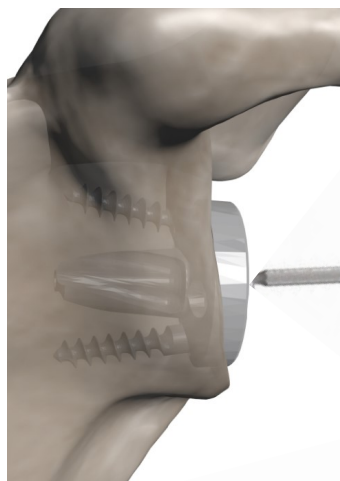

Fig. 24
- Remove the fixation screws. (Fig. 24)